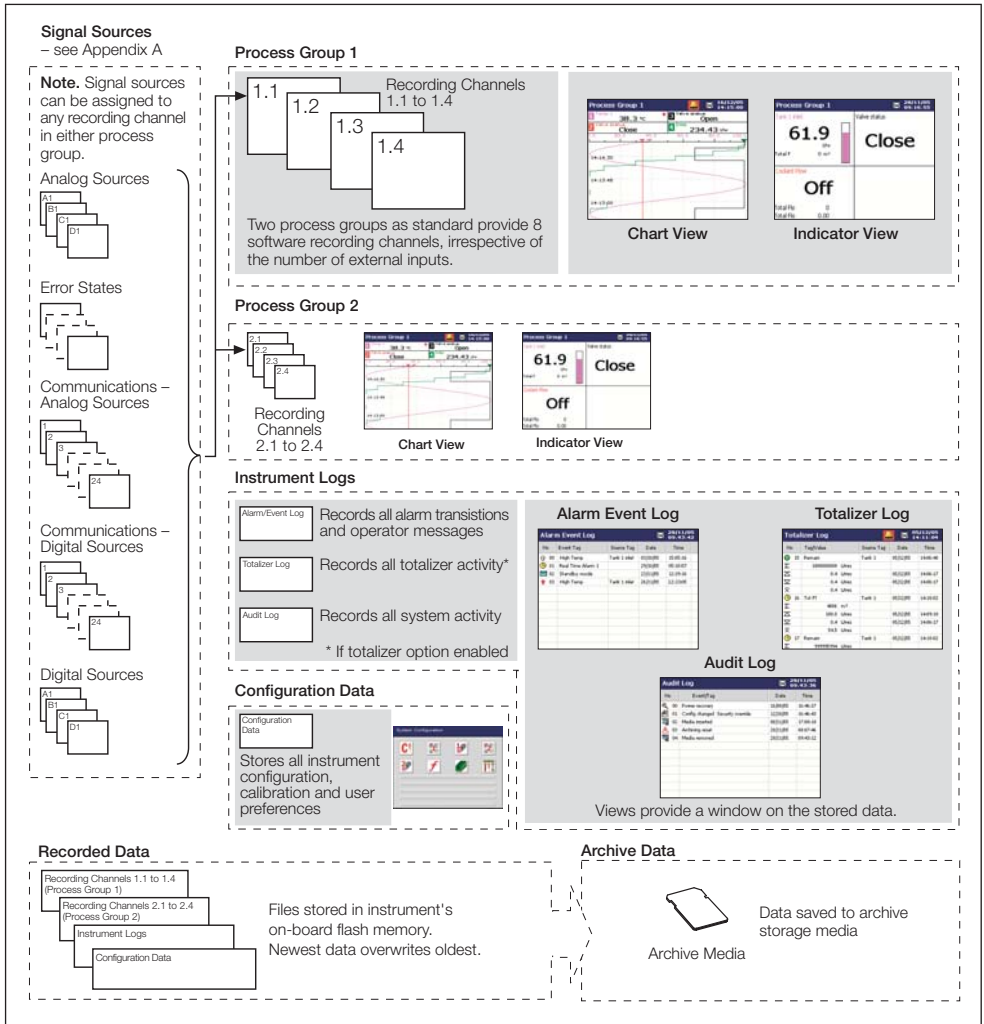

Fig. 1.1 Functional Overview
1.1 Functional Overview – Fig. 1.1